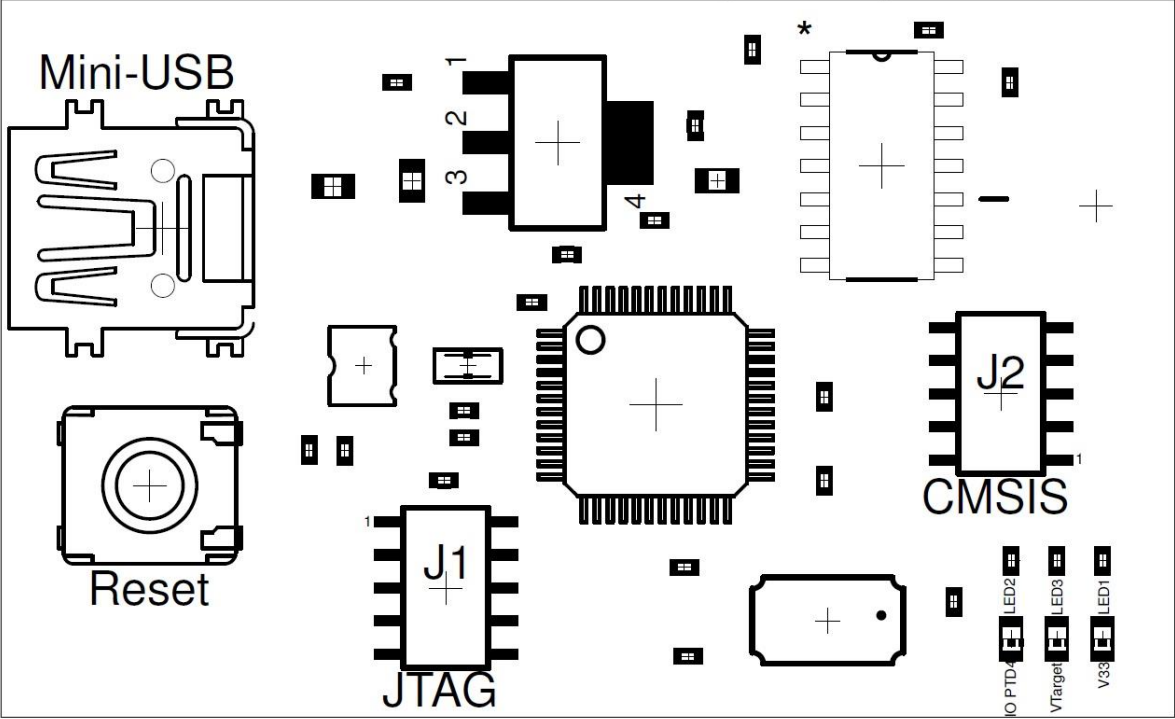

Figure 2: Connector Layout Top
- Figure 2: Connector Layout Top 4